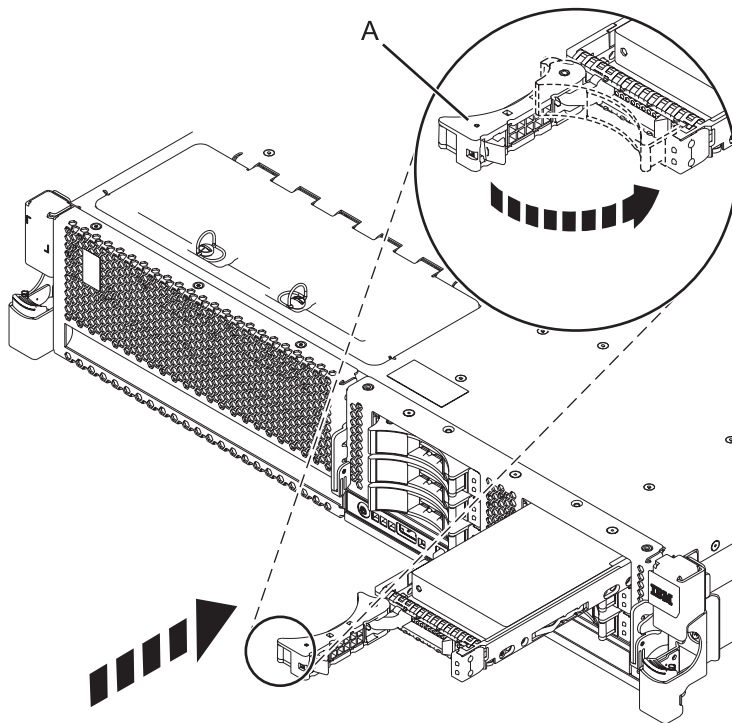

Figure 27. Replacing a disk drive in the system
5. When the identify LED turns on solid, slide the drive all the way into the system, and push the drive handle (A) in until it locks, as shown in Figure 27.